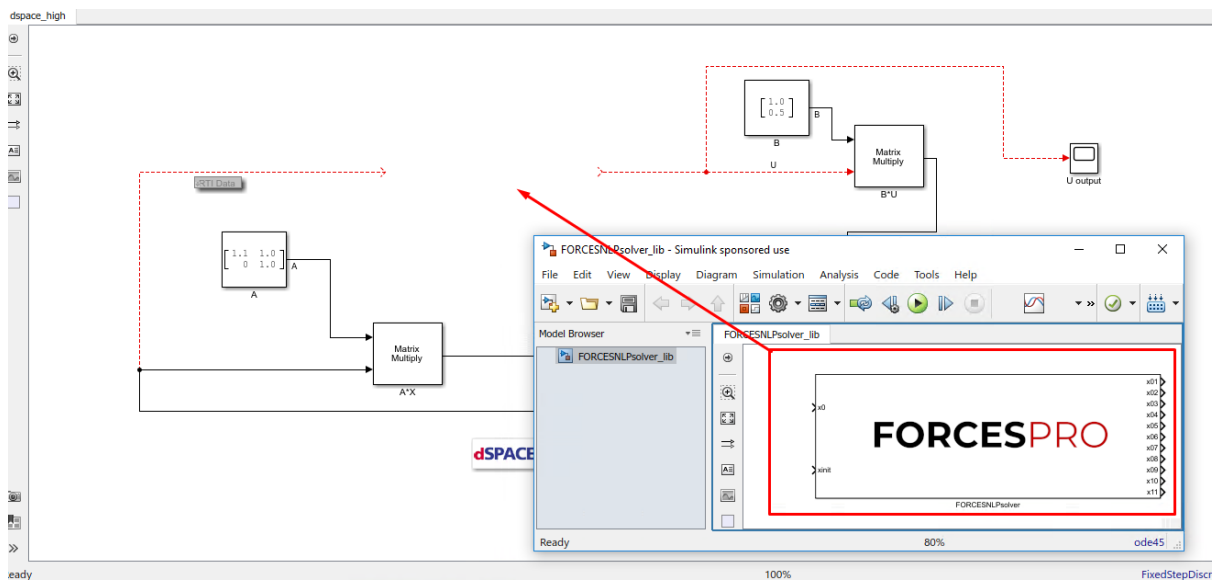

Figure 13.6: Copy-paste and connect the FORCESPRO block.
6. (Figure 13.6) Copy-paste the FORCESPRO Simulink block into your simulation model and connect its inputs and outputs appropriately.